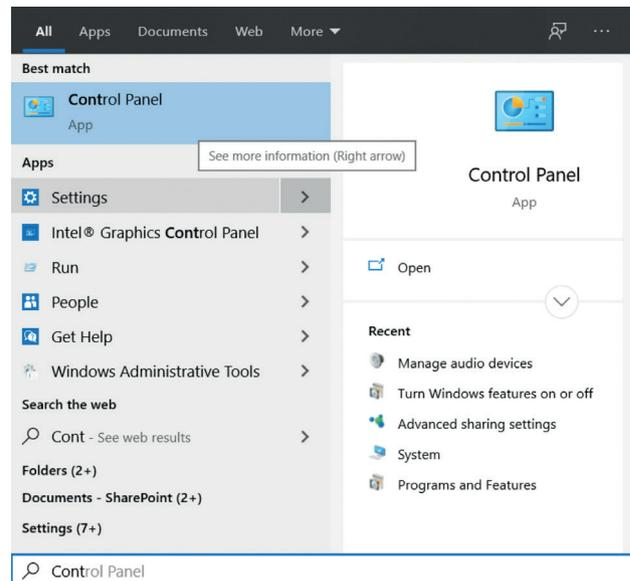

Figure 5. Searching for the **Control Panel** in the **Start** menu.
1. Click the **Start** menu button and search for the **Control Panel** (Figure 5).